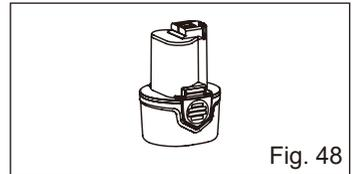

Fig. 48
3) Batteries (Lithium-ion batteries) (Fig. 48)